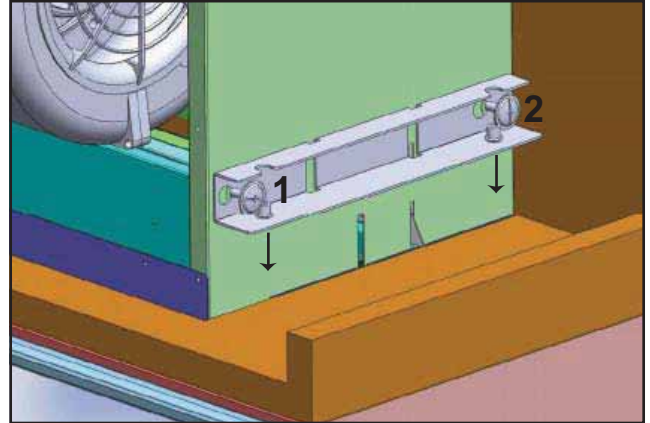

Fig.6
- 5) Secure upper brackets to left and right sides of hood body by using (2) 3/16 x 3/8" screws for each bracket. Fig.6. Make sure the (2) captive nut screw holes on the bracket are facing downward. Note: Due to limited workspace in 30" cabinets you will need to use a right angle or 2" long Philips head screwdriver.